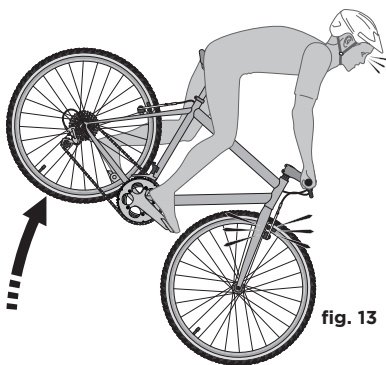

fig. 13
2. Applying brakes too hard or too suddenly can lock up a wheel, which could cause you to lose control and fall (see fig. 13). Sudden or excessive application of the front brake may pitch the rider over the handlebars, which may result in serious injury or death.